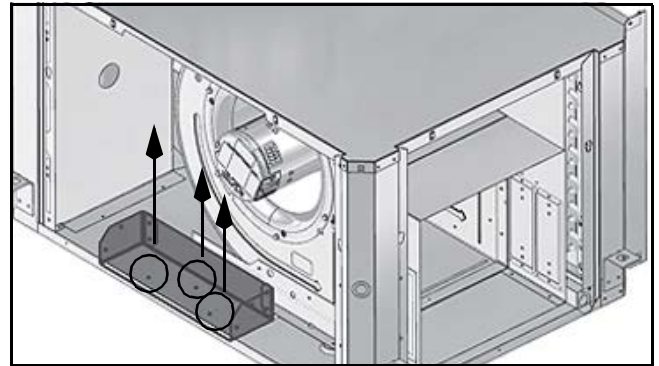

Fig. 12
3. Remove the bracket by removing the three screws securing it and retain the bracket. (See Fig. 12.)